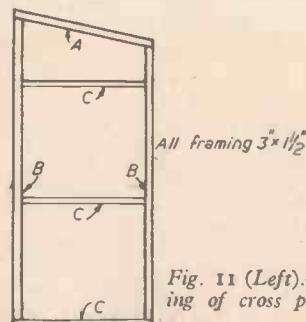

Fig. 11 (Left)—Framing of cross partitions.
**T**HE main structure consists of 3in. X 3in. corner posts, stub tenoned into the top and bottom rails, the latter being half-lapped at the corners. The top and bottom rails are 3in. X 2in. and the intermediate framing 3in. X 1½in. all housed to each other and well nailed. The framing of the front and back is shown in Figs. 9 and 10, and the cross partitions in Fig. 11. Note the 2in. X ½in. fillets at the corners which provide a neat finish to the matching, as shown in Fig. 14.